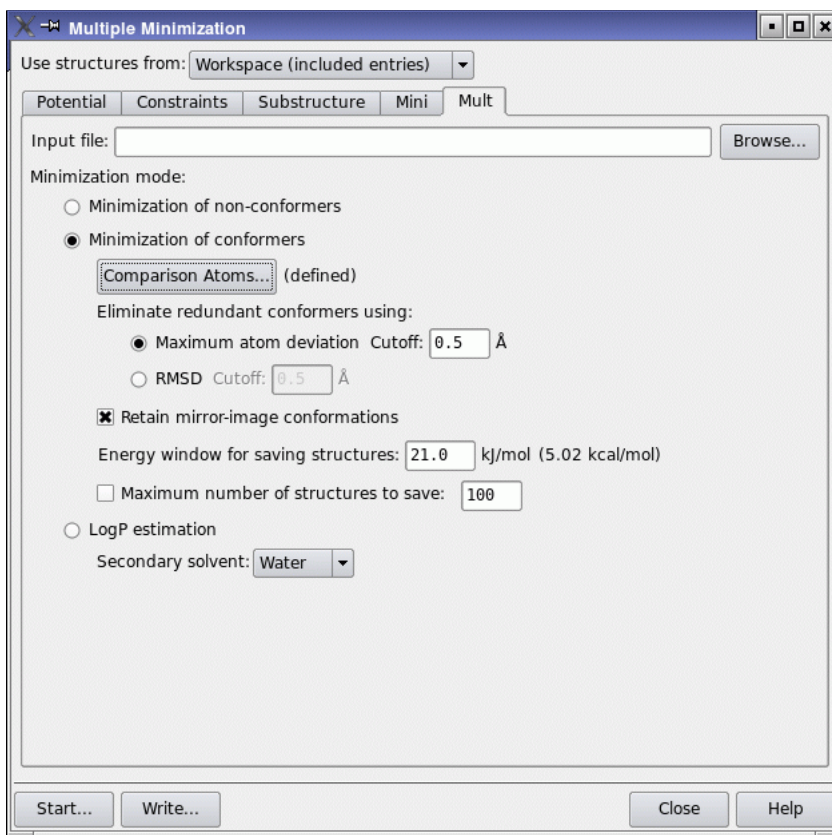

Figure 5.6. The Multiple Minimization panel showing the Mult tab.
6. In the Mult tab, select LogP estimation and choose Water from the Secondary solvent option menu (see Figure 5.6).